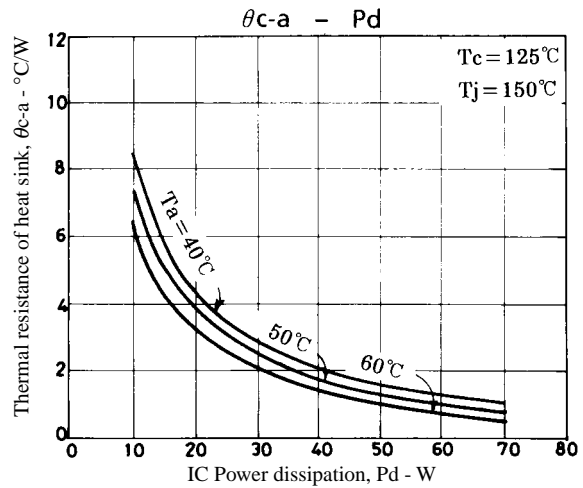

Figure 3. STK4192II θc-a – Pd
Figure 3 shows the relation between Pd and θc-a given from (1) and (3) with Ta as a parameter.
The thermal resistance of a heat sink is obtained from Figure 3.